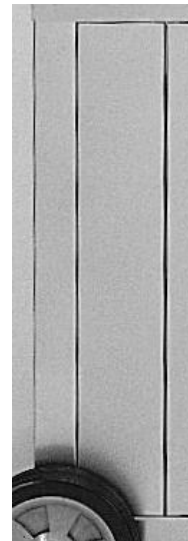

FIGURE 1
- 11- Using the left front cart leg as a guide, align the mounting holes in the left front filler panel, with the mounting holes in the left front cart chassis and left front cart strut. ( SEE FIGURE 1 )